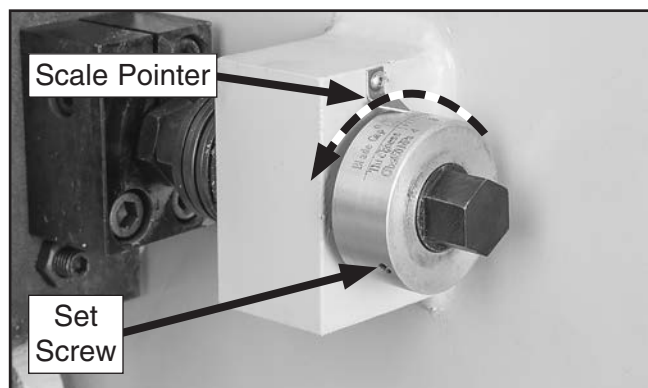

Figure 54. Blade gap adjuster detail.
- Turn both blade gap adjusters counterclockwise to 0" setting (see **Figure 54**).
- Loosen set screw on outside of both blade gap adjusters and align pointers with "0" setting (see **Figure 54** on **Page 39**). Tighten set screws.